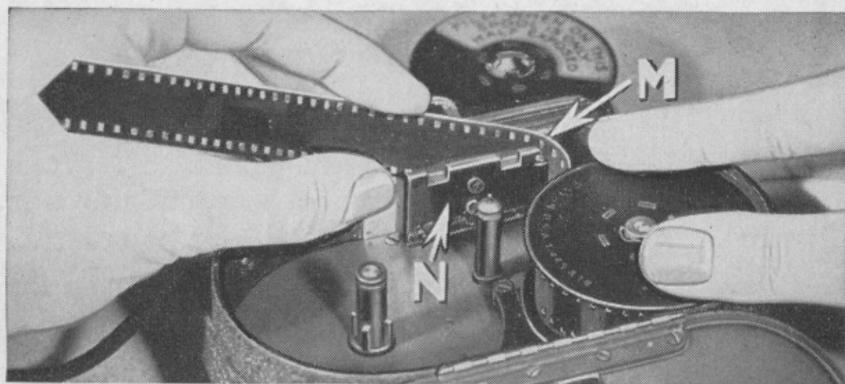
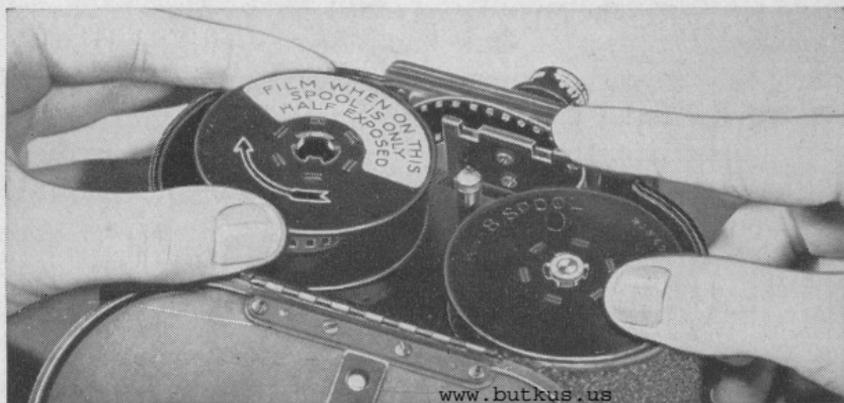

Figure 6
Figure 8
2. With the same brush, remove all dust from every surface inside the camera. Brush *especially carefully* the aperture plate M, Figure 6, taking *particular* pains to remove *all dust* from the edges of the rectangular aperture. Brush all dust from the film gate N, which is hinged so that it may be held wide open for convenient cleaning.
6. Lay the film in the film channel between aperture plate M and film gate N, as in Figure 6.
8. Drop the take-up spool over the take-up (lower) spindle, as in Figure 8. See that the film is still fully down in the channel (between aperture plate M and film gate N, Figure 6). Now press gate N closed and depress the starting button for an instant to check for correctness of threading.